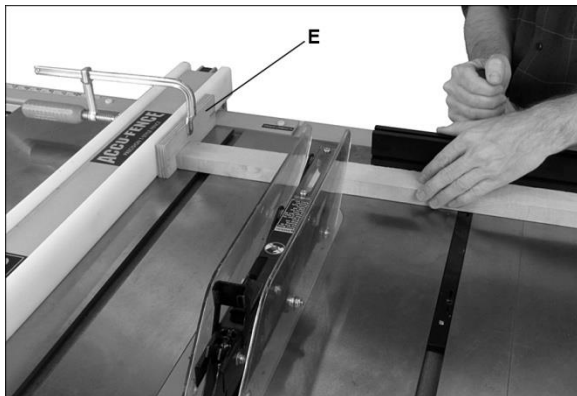

Figure 37
- ❑ Do not use miter gauge and rip fence in the same operation unless provision is made by use of a facing board on the fence, to allow the cutoff section of workpiece to come free before the actual cut begins (See Figure 37).
Crosscutting should **never** be done freehand nor should the fence be used as an end stop unless an auxiliary block (E, Figure 37) is clamped to the front of the blade area such that the cutoff piece comes free of the block before cutting begins.